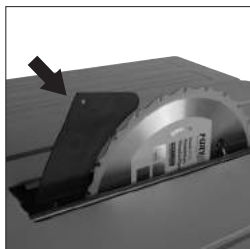

Fig. 19
- Raise the blade to its full height to fully reveal the riving knife. **(Fig. 19)**